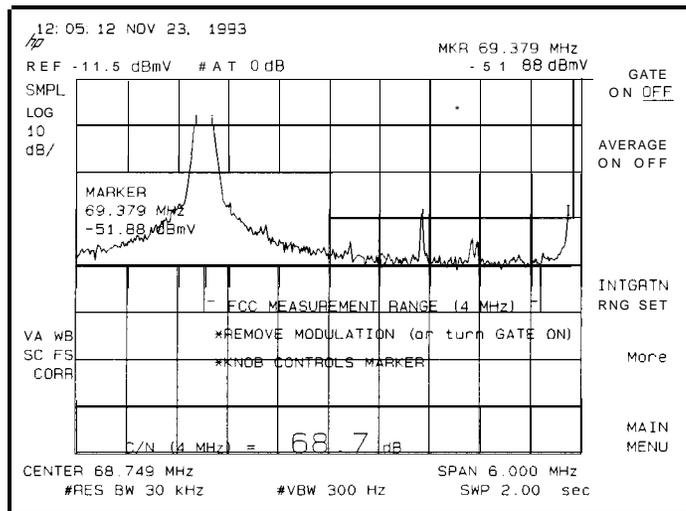

Figure 2-9. Carrier-to-Noise-Modulation and Gating Off
- c. Using the knob, move the marker to the desired position in the indicated FCC MEASUREMENT RANGE, see Figure 2-9.